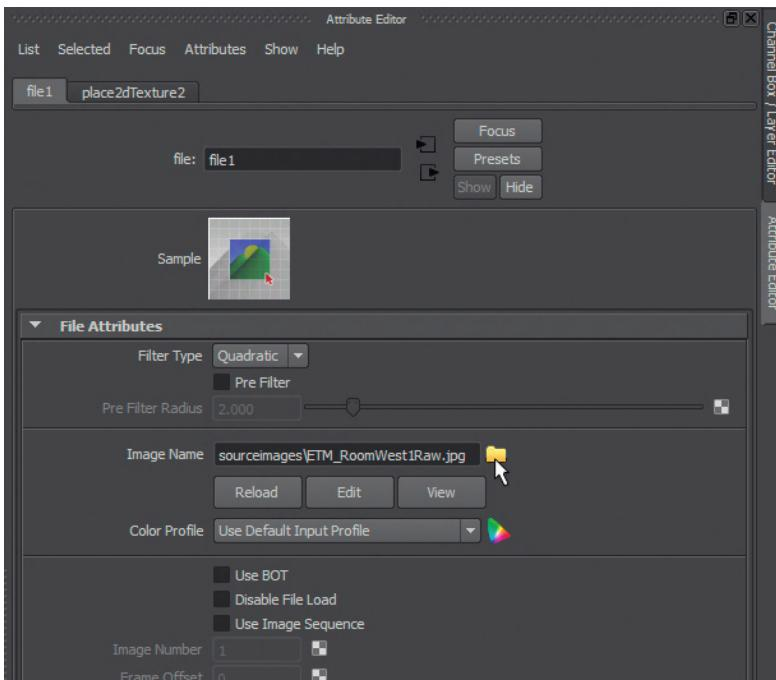

FIG 6.8 Results of filling the file node with our image – which in turn will define the color attribute of the Wall_Mat.
Step 19: Use our painted texture as the color image. After the last step, the Attribute Editor should have swapped to show the attributes of the newly created file node that it created. There, look for the Image Name input field and click the folder icon on the far right. Maya will open a dialog box that *should* go to the sourceimages folder of the project file. Choose the painted image we saved there (ETM_RoomWest1Color.jpg). The results should look like Fig. 6.8.